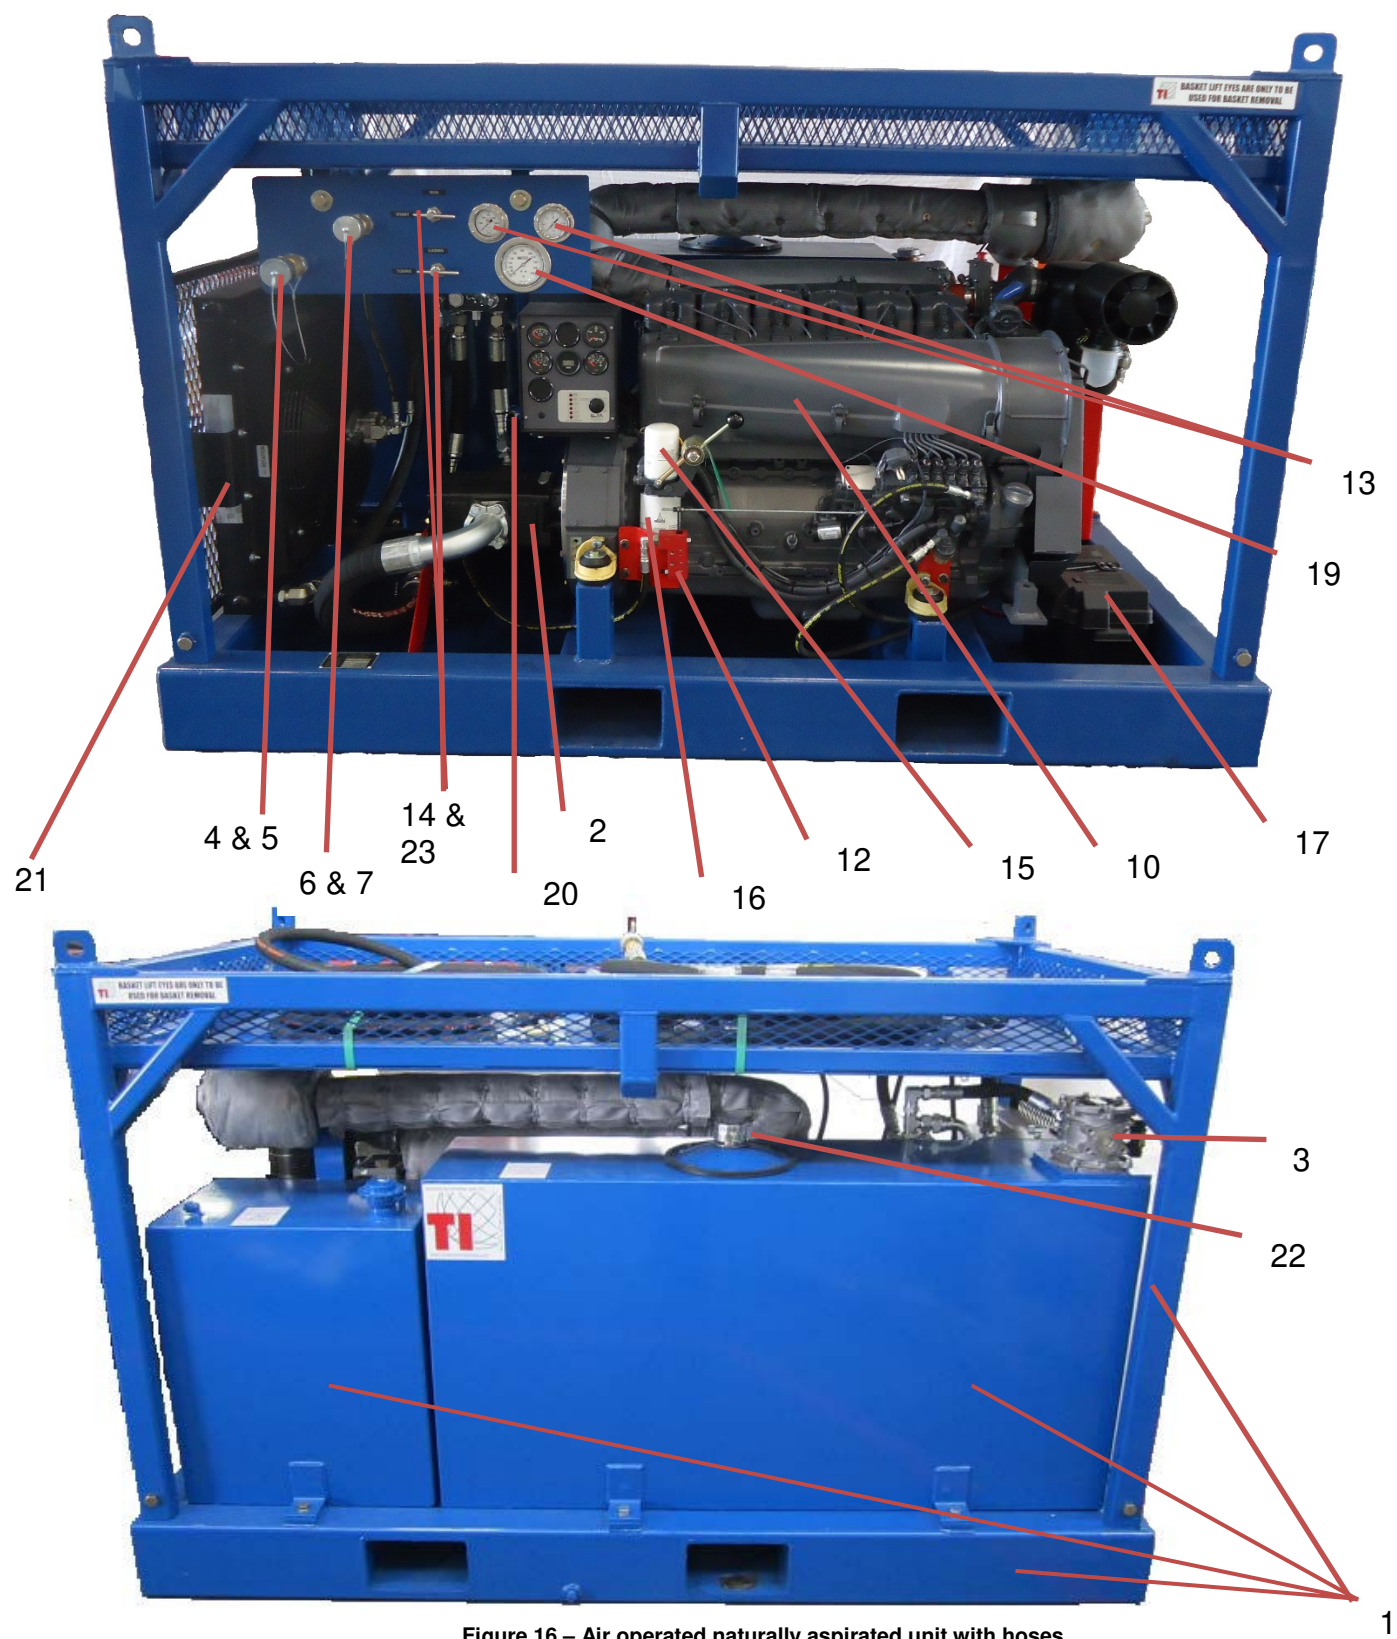

Figure 16 – Air operated naturally aspirated unit with hoses
To adjust hydro throttle (item 12 in Figure 16) see Appendix C.
Table 17: Figure 16/17 BOM